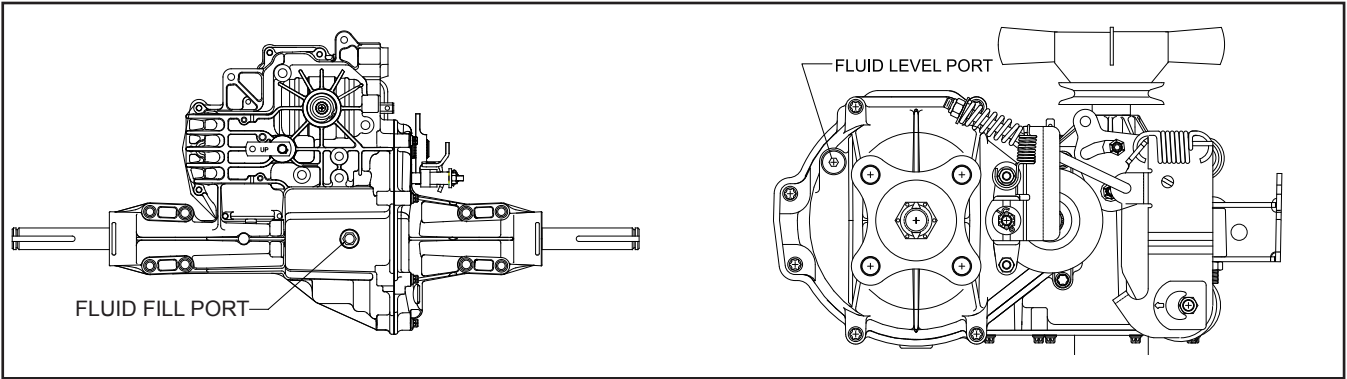

Figure 3. 310-3000 Fluid Fill and Level Ports
2. Check oil level See Figure 3, Page 7.
Certain situations may require additional fluid to be added or even replaced. Refer to Figure 3 for the proper fill port and fluid level port locations. Fill the unit until fluid flows out of the fluid level port. Recheck the fluid level once the unit has been operated for approximately 1 minute. Purging may be required. Refer to the purging procedures, Page 11.
1. With the bypass valve open and the engine running, slowly move the directional control in both forward and reverse directions 5 to 6 times, as air is purged from the unit, the oil level will drop and bubbles may appear in the oil. After stopping the engine, add oil, as necessary. Fill to the level outlined in Figure 3, Page 7.
If you overfill the transaxle while the unit is "cold", it may overflow as it reaches normal operating temperatures. The oil level should not be above the level shown in figure 3, Page 7. This will allow the space needed for the oil to expand as it warms up.